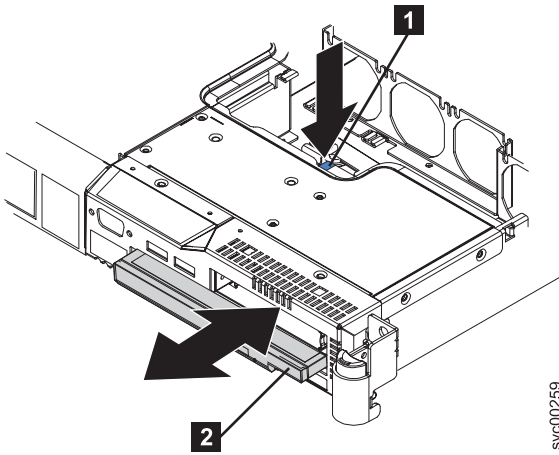

Figure 211. SAN Volume Controller 2145-8G4 dummy CD/DVD drive
3. Release the dummy CD/DVD drive **2** by pressing the release button **1** and sliding the drive out approximately 2 cm (1 in), as shown in Figure 211 on page 216. It is possible to push the drive from the back to start it moving. Do not remove the drive from the casing.